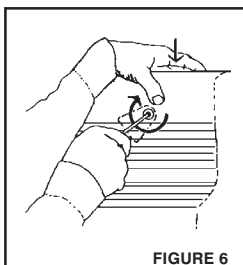
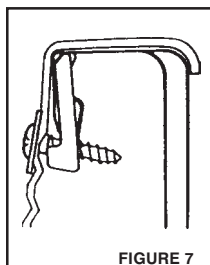

FIGURE 6
FIGURE 7
1. Start at either front (cab end) corner and push downward on bedliner rail while turning screw clockwise with screw driver (see FIGURE 6). You should "feel" the "Liner-Lok™" pivot upwards and stop. Continue turning the screw clockwise until tight (see FIGURE 7).